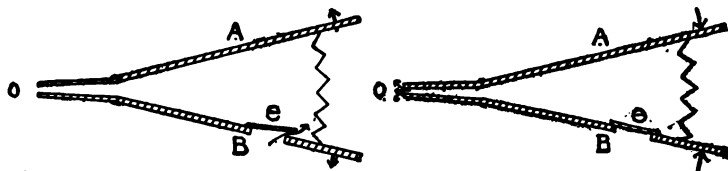

FIG. 307.—FIRE BELLOWS
**313. Fire Bellows.** In the common fire bellows, as the two sides *A* and *B* (Fig. 307) are pulled apart, the air pressure inside becomes less than that of the atmosphere outside and the valve *e* is opened by the air pushing in. The nozzle *o* is so small that very little air can get in through it in comparison with what comes through the valve. When the sides are pushed together, the inside air pressure becomes greater than that of